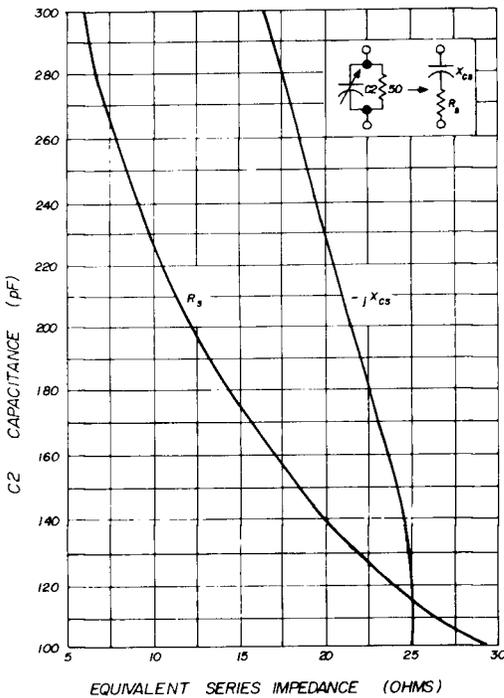

fig. 10. Graph for converting pi network parallel impedance to equivalent series impedance. (Capacitor C_2 in parallel with 50-ohm load at 28 MHz.)
7. Knowing R_s , the corresponding X_{cs} portion of the series equivalent load impedance can be selected from fig. 10. This graph is calculated for *only* a 50-ohm antenna at 28 MHz.